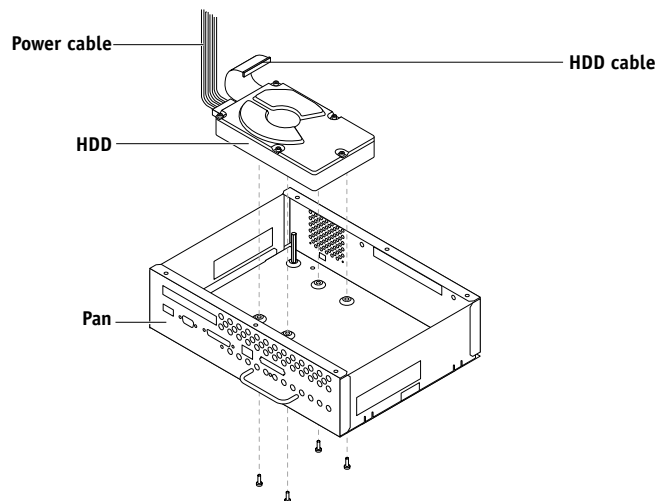

FIGURE 4-13 Replacing the HDD
6. With the pan on its side, remove the four screws on the bottom of the pan that secure the HDD (see Figure 4-13).
3. **With the pan on its side, align the four holes in the bottom of the HDD with the holes in the bottom of the pan and replace the four screws you removed earlier (see Figure 4-13 on page 4-19).**